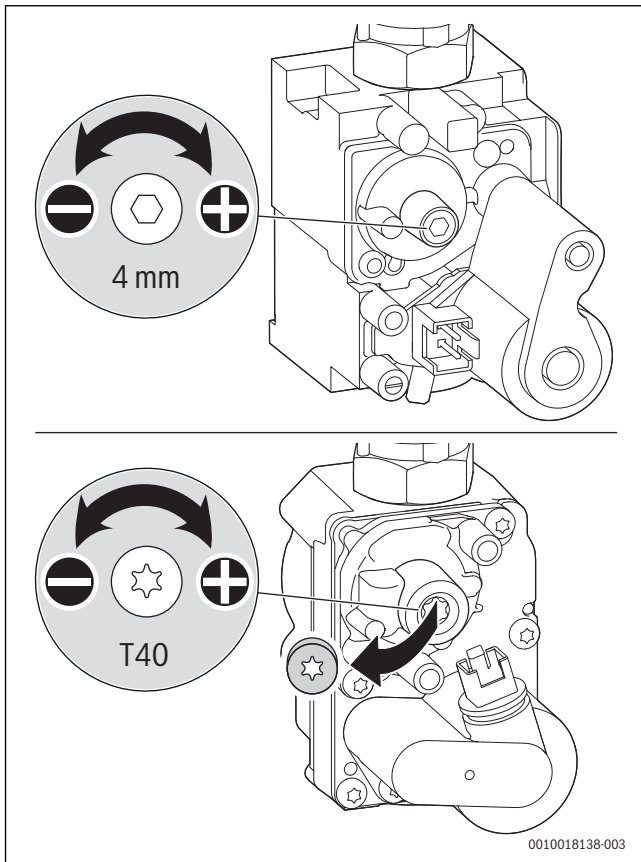

Fig. 97 Setting the CO₂ content (above: SIT valve, below: Honeywell valve)
- ▶ Remove the seal from the adjusting screw of the air/gas ratio control valve (only air/gas ratio control valve is shown in the below Fig. 97) and set the CO₂ content for minimum rated output.